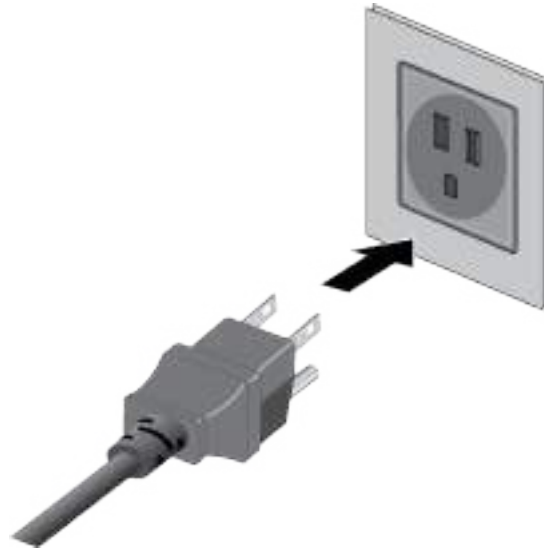

Figure 40. Connecting the Power Cords to an AC Power Source
6. Connect the power cords to an appropriate AC power source. Refer to Figure 40 on page 86.